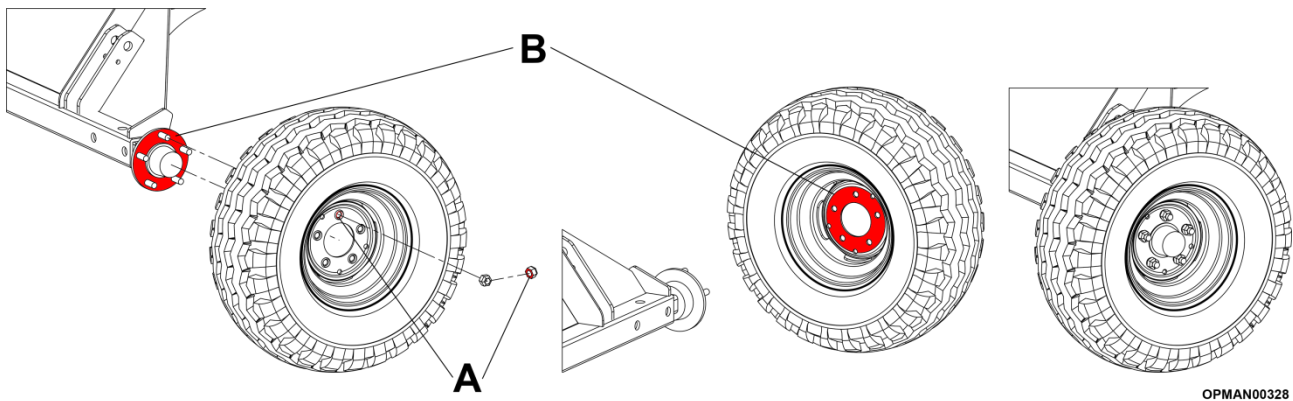

Figure 5.77 – Trident Road Tyre & Wheel Nut Orientation
When installing the wheel ensure that the **domed side of the lug nut is against the wheel**; see Figure 5.77 (A).
When installing the Trident road tyre option ensure that the **flat of the wheel face is against the hub face**; see Figure 5.77 (B).